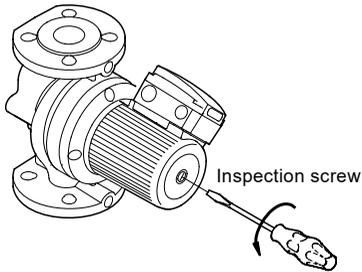

Fig. 6 Venting the pump
In the case of single-pump operation, the cable between the pumps is to be removed. Set the pumps individually and connected them separately to the mains. See figures 6 and 7 in the appendix:
- Figure 6: Electrical connection and setting of the selector switch when using the signal output for operating indication.
If the signal output of the standby pump is to be used for fault or operating indication, proceed as shown in figures 6 and 7 in appendix.